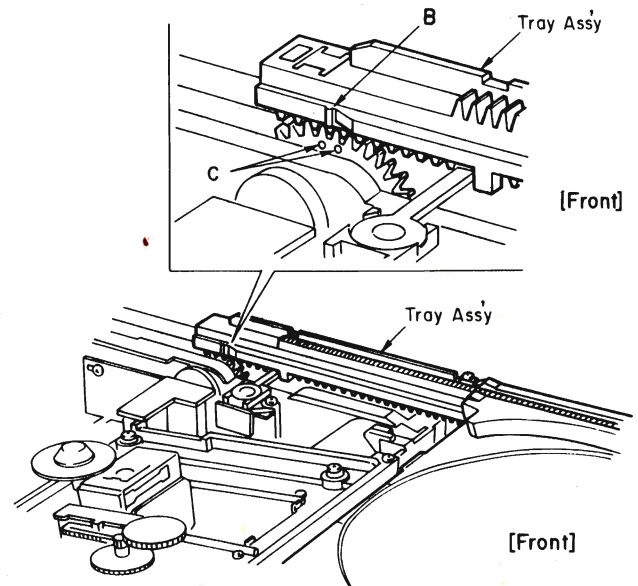

Fig. 3.2 Positioning of the Tray Ass'y
- (1) Install the Tray Ass'y so that the protrusion "B" of the Tray Ass'y is positioned between two marks (holes) "C" of the S-F-Gear. Refer to Fig. 3.2.